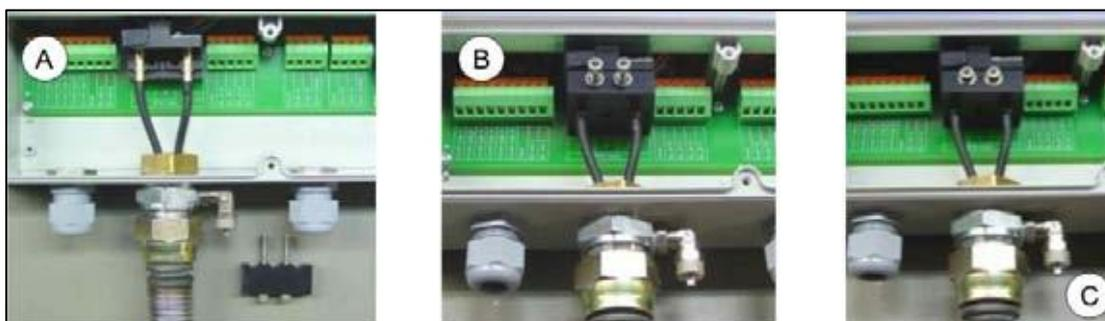

Fig. 2.15. Connecting cables to optical unit.
7. Lock the cables in place with the optic block cover, Fig. 2.15, points A & B.